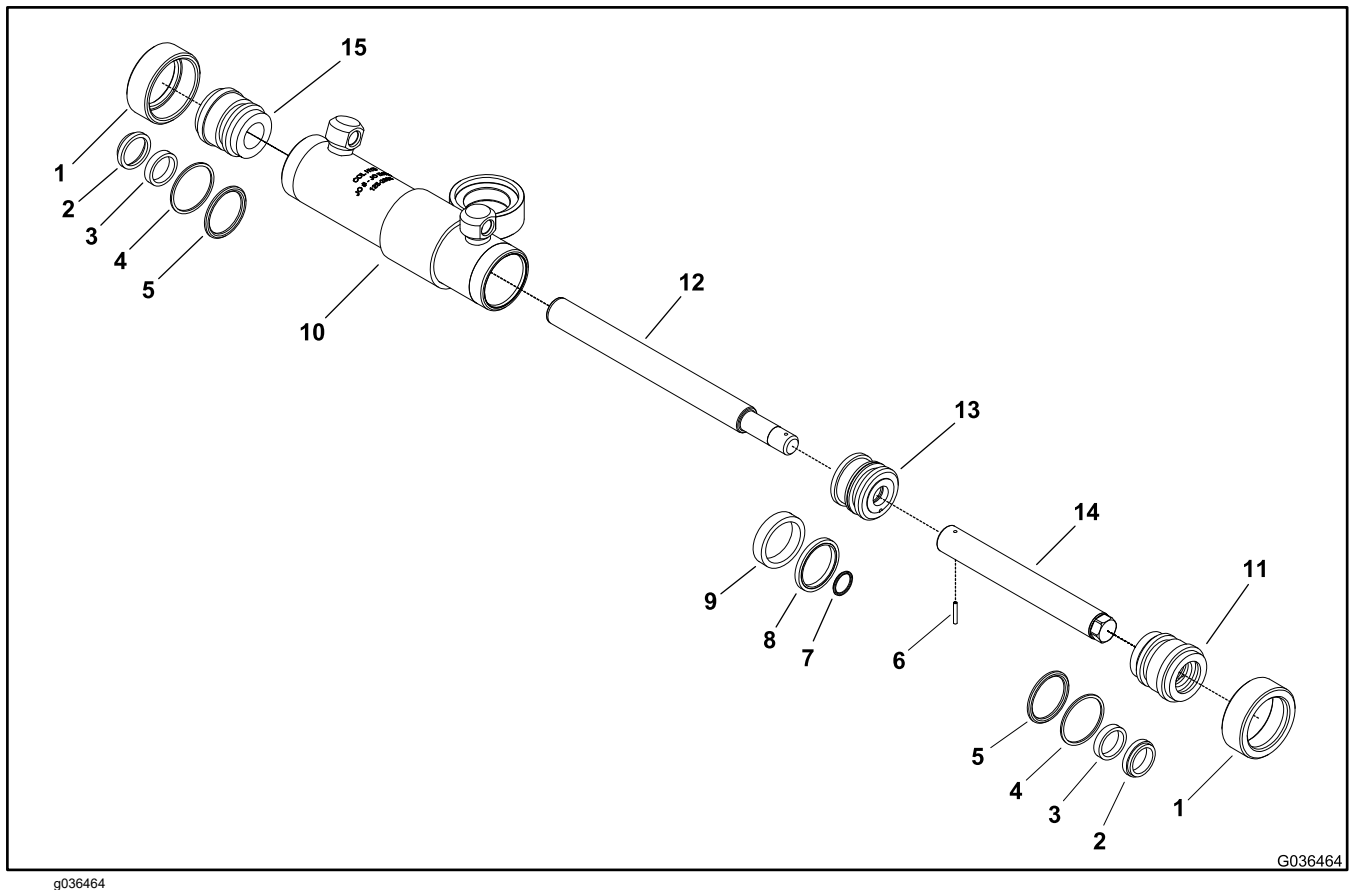

Figure 148
7. Remove and discard the roll pin (item 6 in Figure 148) that secures the front rod to the rear rod. Then, remove the rear rod, piston assembly, and front head from the front rod.
2. Install the front head (item 15 in Figure 148) with new seals onto the front rod (item 12).
Ensure that you do not damage O-ring (item 7 in Figure 148) as piston is installed over the roll pin hole in the front rod.
3. Install the piston (item 13 in Figure 148) with new seal, O-ring, and wear ring onto the front rod.
4. Slide the rear rod onto the front rod and align the roll pin holes in the rods. Install roll pin (item 6 in Figure 148) to secure the rods.